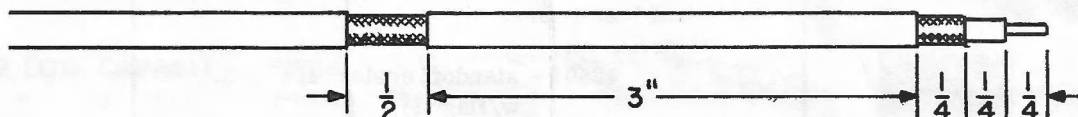

Figure 4.
3. () Figure 4. Strip the outer insulation back 3/4" from one end of the coaxial cable. Cut the braided shield so that it protrudes 1/4" from the outer insulation. Strip the insulation back 1/4" from the end of the inner conductor. Strip off a 1/2" length of insulation at the location noted in the figure. It is 3-3/4" from the end of the cable or 3" from the end of the insulation.